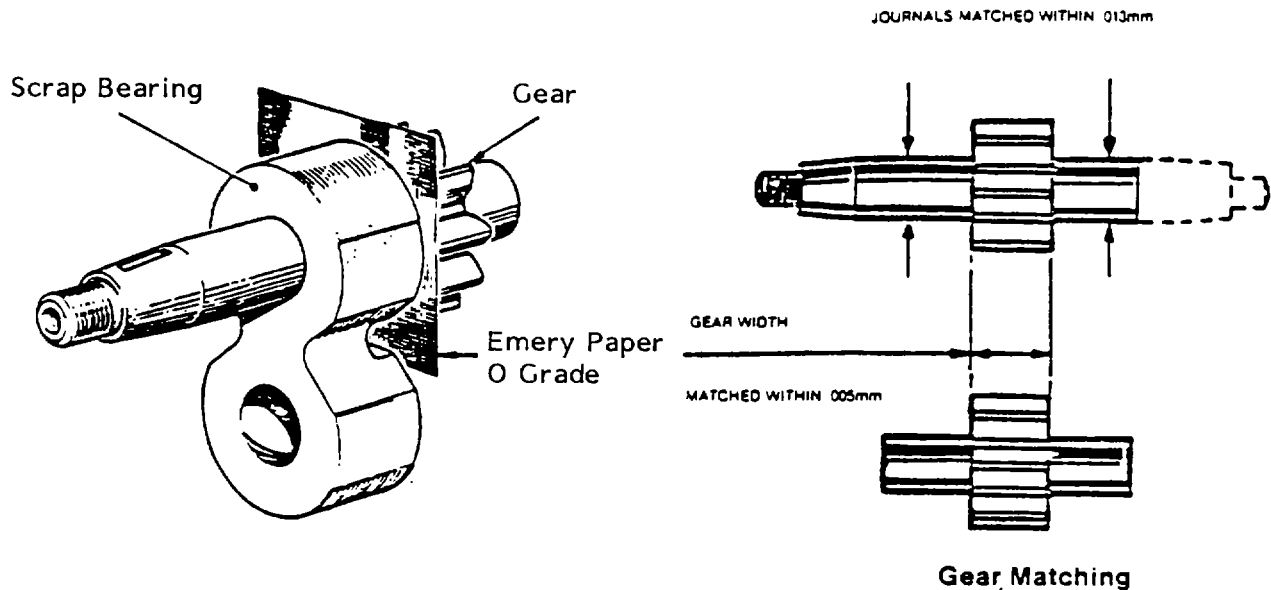

Figure 4-18. Pump Gears
- (1) Inspect the gears for scored or worn side faces or journals, damaged teeth, thread or keyway, and surface cracks.
- (2) Slight wear and scoring on the journals can be erased by polishing between lathe centres using O grade emery paper lubricated with paraffin. Slightly scored side faces may be renovated by sandwiching emery paper between the gear face and a scrap bearing, as in Figure 4-18.
- (3) While servicing the drive and driven gears, particular attention should be paid to the following points.
- (a) Gear widths of drive and driven gears must be within 0.005mm(0.0002") of each other to ensure satisfactory pump efficiency. (See Figure 4-18).
- (b) Journals must be within 0.013 mm (0.0005") of each other. (See Figure 4-18).